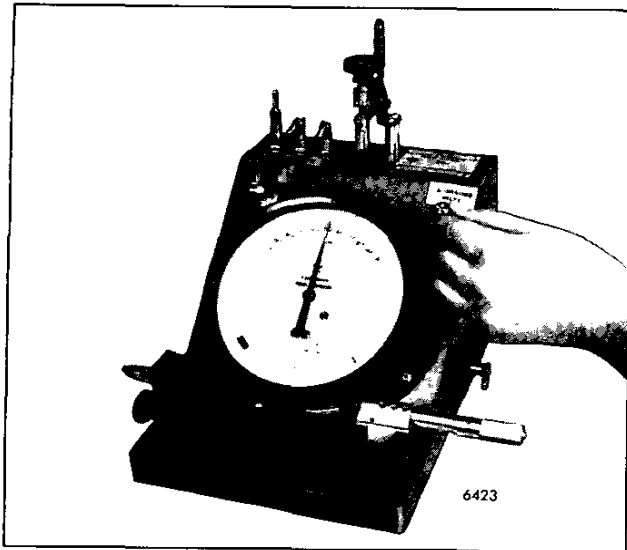

Fig. 13 – Adjusting the Calibrating Valve
3. Adjust the calibrating valve, so that the gage needle is exactly at the "set line" (Fig. 13).